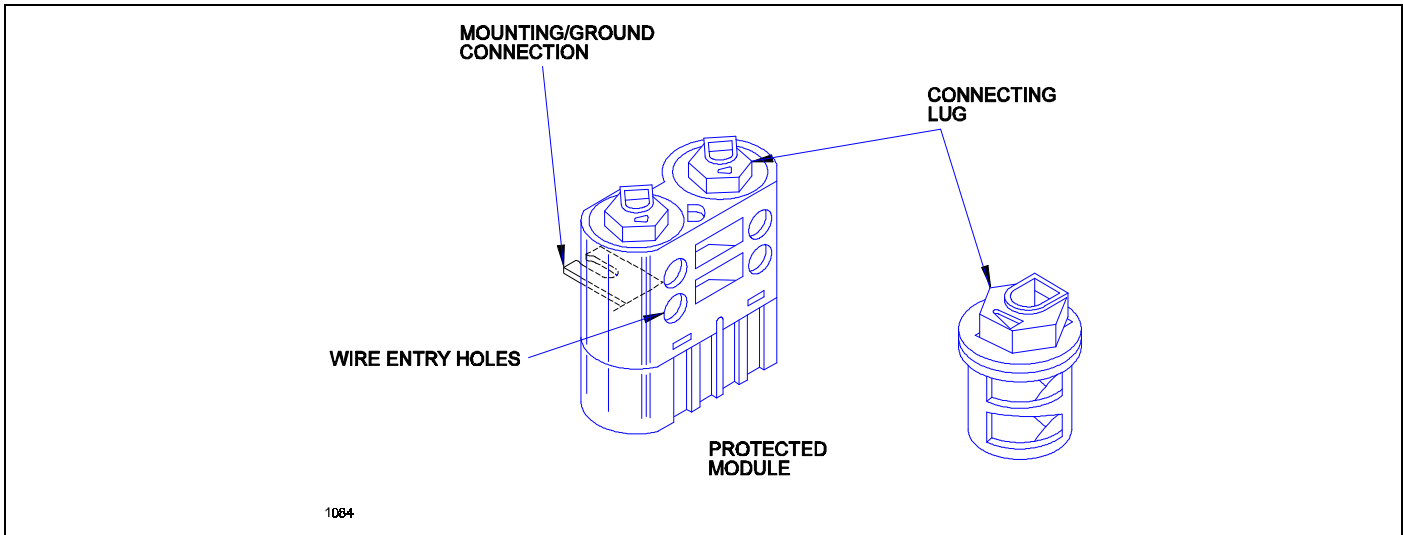

Figure 3. Quiet-Front Connector Module.
1.04 The HRE-450 Quiet Front Connector Modules (QFCM) protect the enclosed module from lightning and over-voltage spikes (Figure 3).